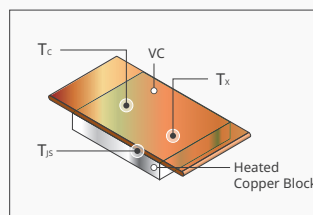

Figure 1. Schematic diagram of TGP-VC measured with two-point temperature difference.
The TGP-VC two-point temperature difference measurement method is based on the standard <TTMA-VC-2020> set by the Taiwan Thermal Management Association. The performance indicators are the axial thermal resistance $R_{th,Z}$ (or the axial temperature difference $\Delta T_{JS,C}$) of the VC, the junction temperature T_{JS} , and the two-point temperature difference $\Delta T_{CX}=T_C-T_X$ and the maximum heat transfer rate Q_{max} . Using a heated copper block to simulate IC chip heating, as shown in Figure 1. The hot plate of the VC is placed above the heated copper block. Measure the center temperature T_C of the cold plate of the VC, the second point temperature T_X , and the junction temperature T_{JS} of the heated copper block. T_{JS} is used to calculate the axial thermal resistance $R_{th,Z}$ of VC. During measurement, the changes in axial thermal resistance $R_{th,Z}$ of VC under different heating powers (W) are recorded. When the axial thermal resistance reaches the lowest value, the heating power is Q_{max} . As shown in Figure 2, when the heating power is 8.5W, the axial thermal resistance reaches the minimum value, and the Q_{max} of this VC is 8.5W.